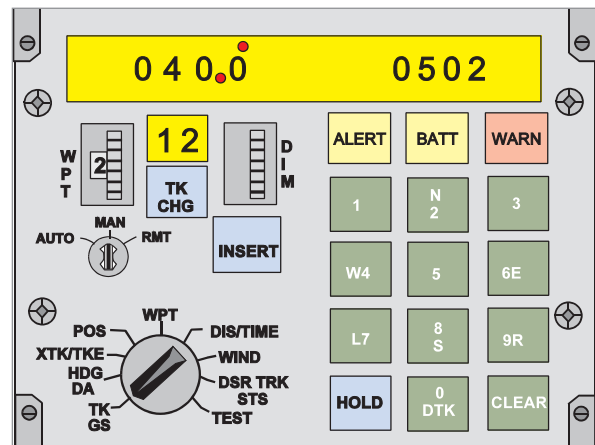

Figure 18.18 TK / GS (Track and ground speed)
The track is 040°(T) and the ground speed 502 kt at Figure 18.18.